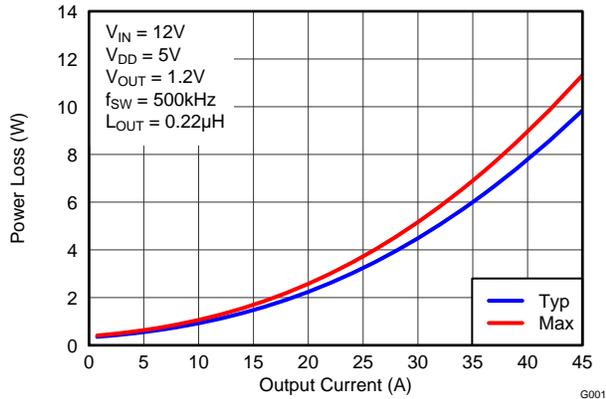

Figure 3. Power Loss vs Output Current
MOSFET centric parameters such as $R_{DS(ON)}$ and Q_{gd} are primarily needed by engineers to estimate the loss generated by the devices. To simplify the design process for engineers, TI has provided measured power loss performance curves. Figure 3 plots the power loss of the CSD95373AQ5M as a function of load current. This curve is measured by configuring and running the CSD95373AQ5M as it would be in the final application. The measured power loss is the CSD95373AQ5M device power loss, which consists of both input conversion loss and gate drive loss. Equation 1 is used to generate the power loss curve.
The power loss curve in Figure 3 is measured at the maximum recommended junction temperature of $T_J = 125^\circ\text{C}$ under isothermal test conditions.
- Typical Power Loss at 30 A = 4.5 W (Figure 3)